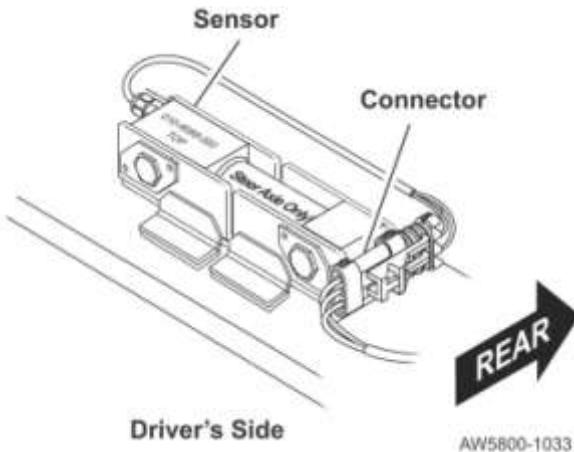

Fig. 11: Passenger's side orientation
4. **Passenger's side sensor orientation:** Facing toward the rear of the vehicle, route the cable from the connector assembly so it runs to the left of the steer axle sensor assembly (Fig. 11).